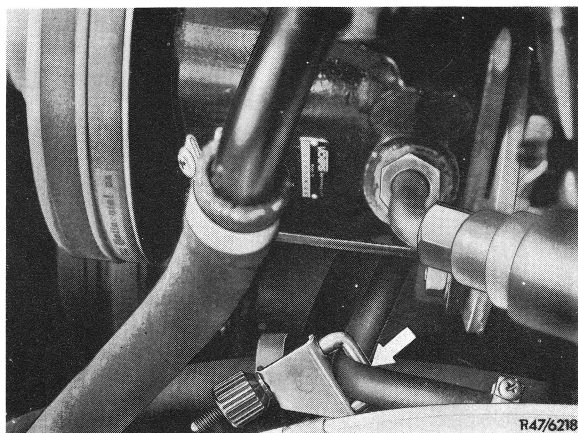

Fig. 4
c) Check ball valve in delivery connection of fuel pump by switching on the ignition and disconnecting the fuel hose in front of the ring line the moment the fuel pump stops (arrow in Fig. 4).